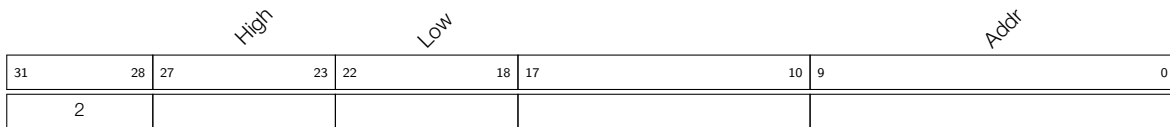

Figure 1-24. Instruction Type - REG\_RD
**Operand** **Description** - see Figure 1-24